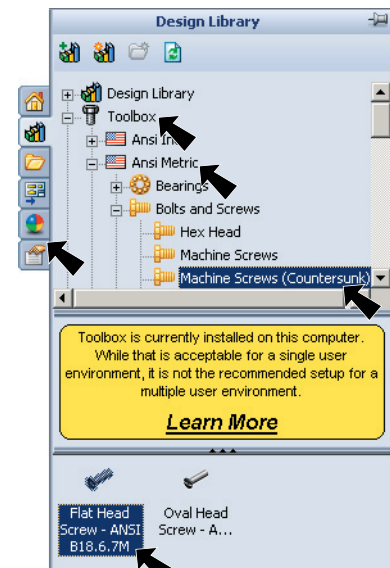
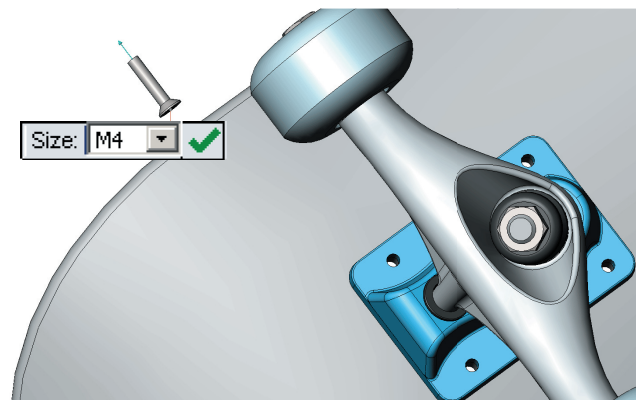

Fig. 3
Fig. 4
Step 1. Click the **Design Library** tab  in the Task Pane (right side of drawing area), **Fig. 3**.
Step 3. In the lower pane, click **Flat Head Screw**, **Fig. 3** and drag screw into drawing along side the deck as shown in **Fig. 4**.
Step 4. In **Size popup dialog**, set **Size** to **M4**, **Fig. 4** and click OK .